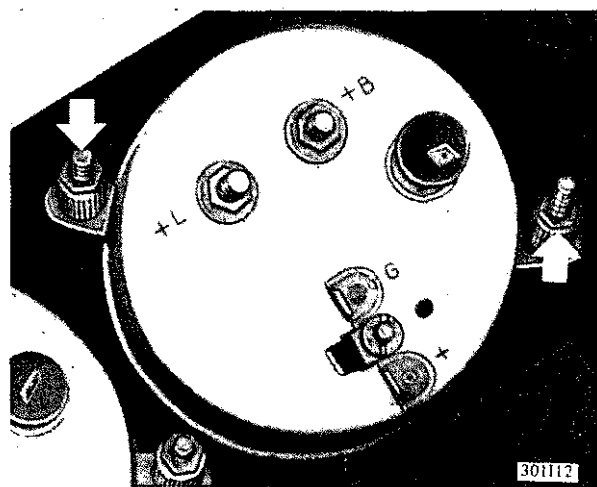

Figure 1 I-12 Rear View of Ammeter and Oil Pressure Gauge
3. Disconnect electrical wires. See Figure 1 I-12.